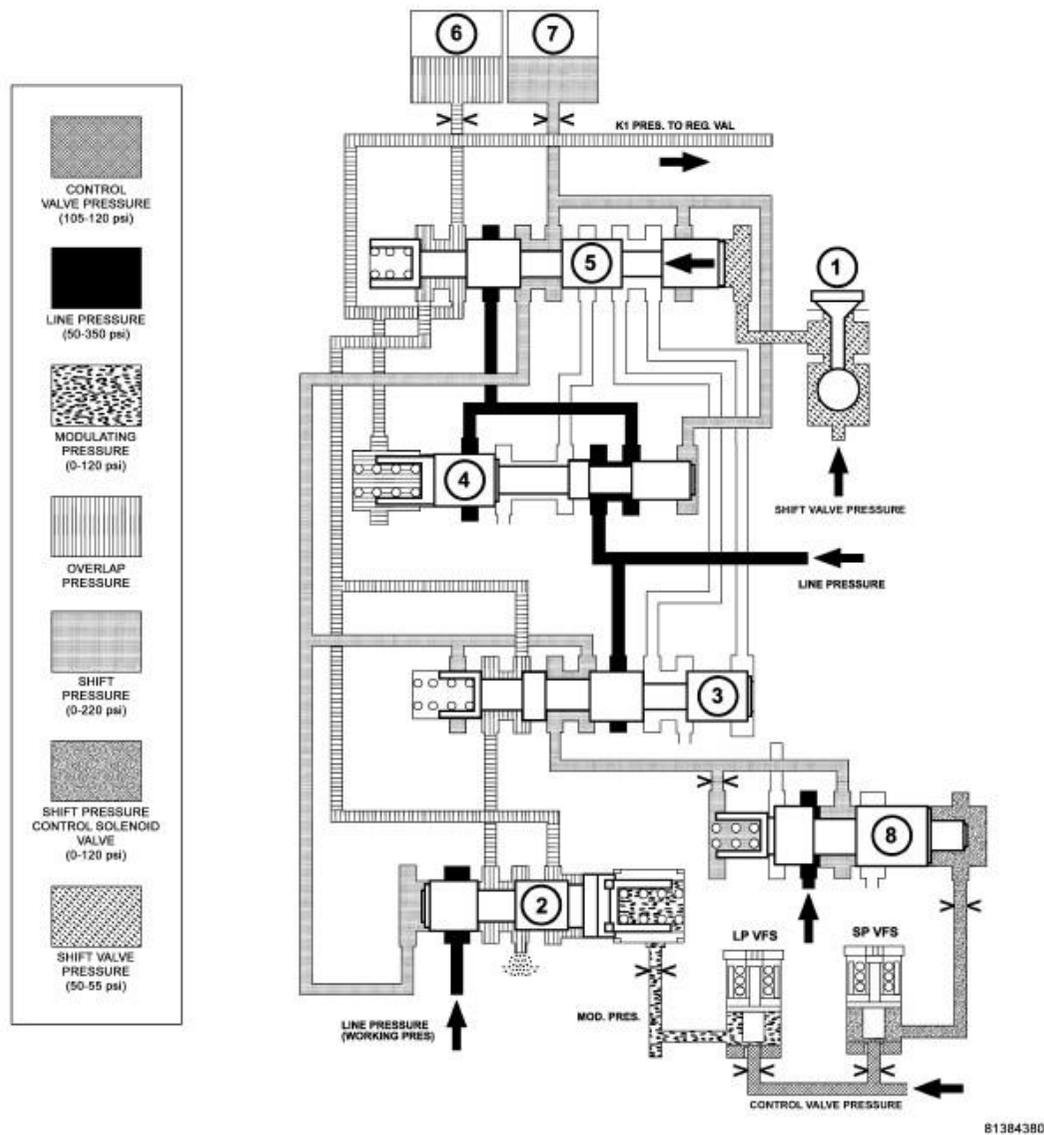

Fig. 20: Shift Phase - 2-1 Shift Phase 1
The 1-2/4-5 shift solenoid (1) is turned ON to apply shift pressure (p-S) to the end face of the 1-2/4-5 command valve (5). Refer to **Fig. 20**. This allows the command valve to up-shift and the shift pressure coming from the 1-2/4-5 shift valve (3) is routed to the holding clutch B1 (7) via the command valve.